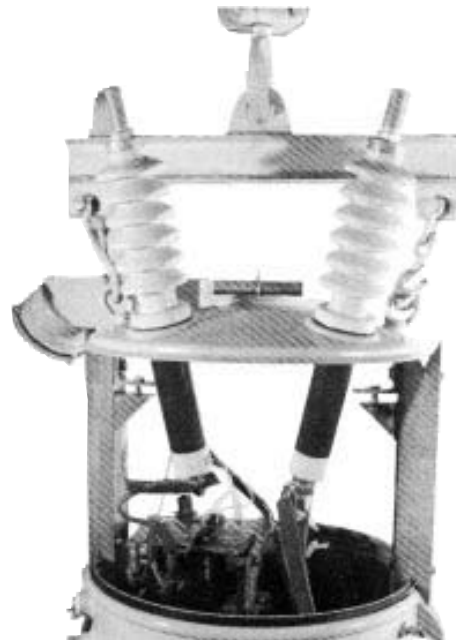

Figure 1-7.
5. Attach sling or hooks with spreader bar (Figure 1-7) to lifting eyes and raise the cover, with the attached core-and-coil assembly, until the top of the coil is approximately one inch under oil. The control cabinet should be guided to avoid snagging during lifting.
**CAUTION:** Before intanking a fan-cooled regulator, (1) lower the oil level below the thermometer, then (2) remove the thermometer will. Failure to do so will result in damage to the thermometer will and/or spillage of oil when the internal assembly is lifted.